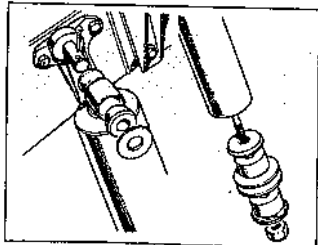

Fig. 11.8 Rear shock absorber assembly (Sec 7)
- 6 Undo the split pin in the upper mounting and remove the flat washer (Fig. 11.8).